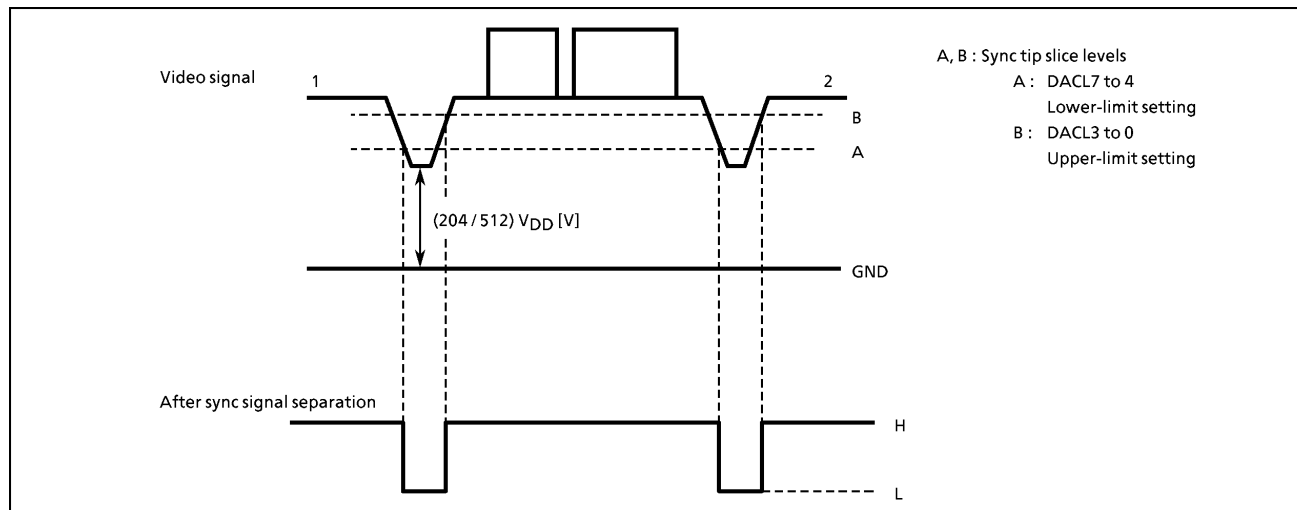

Figure 2-84. Sync signal slice
- a-1. Sync tip clamp (pin 40) The sync tip is clamped at $(204 / 512) V_{DD}$ [V] as shown in Figure 2-84.
The sync signal is separated as shown in Figure 2-84.